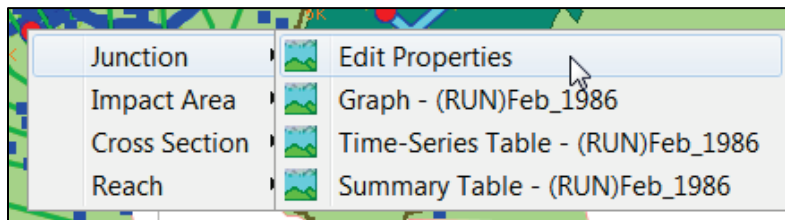

Figure L.8 Junction Element Shortcut Menu
1. From the simulation map window, right-click on an HMS junction model element on the schematic (red circle), a shortcut menu will appear (Figure L.8). From the shortcut menu click **Edit Properties**.